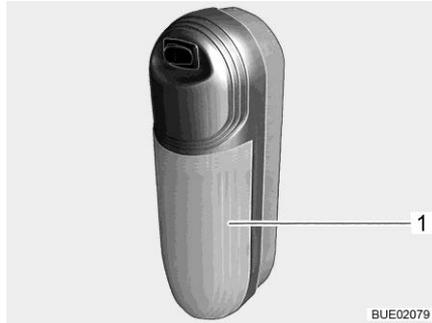

Fig. 297 Surface mounted light
- Pull transparent cover (Fig. 297,1) slightly away from switch and remove it.